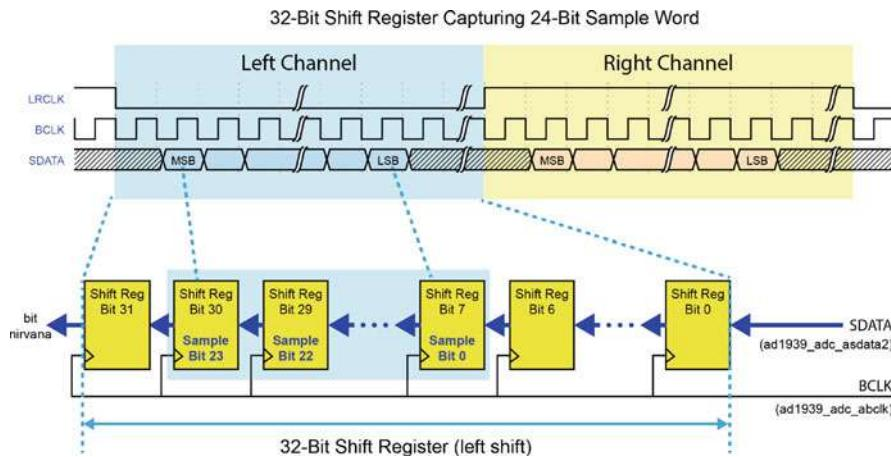
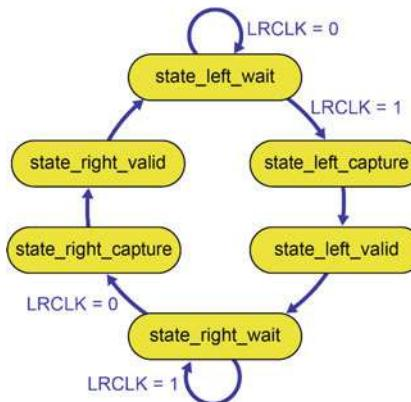

Fig. 1.3: Converting the serial I2S data into parallel 24-bit sample words
Fig. 1.4: State machine used to capture the 24-bit I2S audio words using the LRCLK signal as shown in Fig. 1.3
The first step in processing the I2S serial data coming into the FPGA (see signals in Table 1.1), which is shown in Fig. 1.2, is to perform a serial to parallel conversion of the 32-bit framing window that contains the 24-bit sample word. This is done using a shift register as illustrated in Fig. 1.3. The shift register is configured so that the bits enter from the right side and shift left. Thus, when we capture the 24-bit sample word (by capturing all 32 bits in the left/right framing window), the MSB will be on the left side, i.e., bit 23 of the extracted signal will hold bit 23 of the ADC sample. The shift register is 32 bits since there are 32 BCLK cycles in each of the left and right framing windows that are controlled by the LRCLK framing clock.
It should be noted that the 24-bit signal still has bits shifting through it on every rising edge of the bit clock. The 24-bit word only has the correct bits for the sample word when it is positioned correctly in the 32-bit left/right framing window. This is where the LRCLK signal comes into play (see Fig. 1.3). When the LRCLK clock signal (ad1939\_adc\_alrclk) transitions from low to high, the 32-bit shift register is full of left data, and this is the time to capture the left sample value. This timing is done by the state machine contained in the AD1939\_hps\_audio\_mini.vhd component, which is illustrated in Fig. 1.4.
As soon as the LRCLK goes high (see Fig. 1.3 and associated VHDL code in Listing 1.5), the state machine transitions immediately through states *state\_left\_capture* and *state\_left\_valid*, taking only one system clock cycle for each state. It is in these states that we create the Avalon Streaming signals, which is described in the next section.
When the state machine is in the state *state\_left\_capture*, it saves the 24-bit sample word into the output signal *ad1939\_adc\_data* since the 24 bits are correctly aligned in the 32-bit left/right framing window. The output signal *ad1939\_adc\_data* is the data channel of the Avalon Streaming interface as shown at the bottom of Fig. 1.3, and it keeps this value until the state machine enters the *state\_left\_capture* again and captures a new value. In the next state *state\_left\_valid*, the Streaming Interface signals *valid* (1) and *channel* (0 for left) are sent out. The associated VHDL code is shown in Listing 1.6. The state machine then deals with the right channel in a similar manner before repeating the left channel states again.
The parallel to serial conversion is performed by a 32-bit shift register that performs the inverse of the serial to parallel shift register discussed in Sect. 1.2.1.1. The parallel to serial shift register also shifts left since the MSB needs to come out first. However, there is a control signal *load* that when asserted (1) loads the 32-bit word into the shift register. When *load* is deasserted (0), the shift register shifts left each bit clock cycle. It turns out that LRCLK signal (see Fig. 1.3) is exactly what we need for the load signal since we want the load signal to be low during the left frame to shift out the left channel bits. The right channel is done similarly except we need the inverse of the LRCLK signal for the load signal for the right parallel to serial converter.